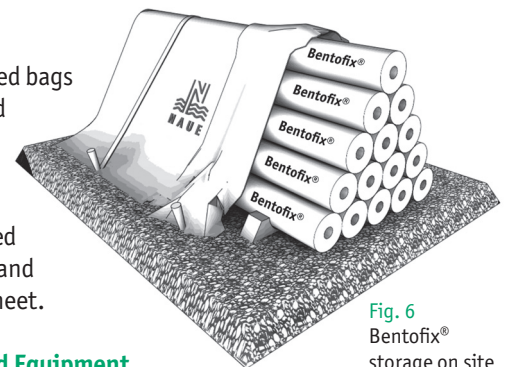

Fig. 6 Bentofix® storage on site
9.4 Bentofix® GCLs can be stacked up to five rolls high if stored on site (Fig. 6). It must be ensured that rolls cannot move at any time once stacked and stored. If rolls need to be stacked higher please contact NAUE or their representative.